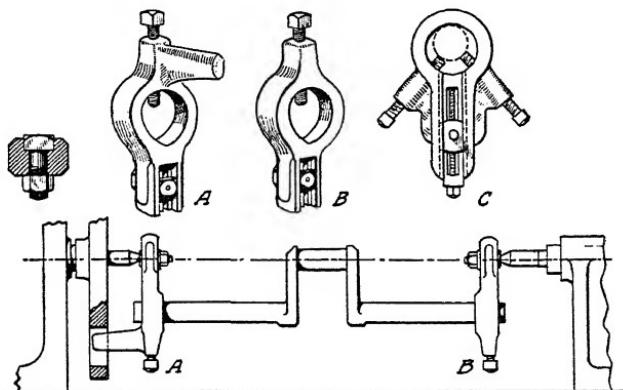

Fig. 33. Dogs with Adjustable Bearings Used for Turning Crank Pins in the Lathe
**Machining Crankshafts in Lathe.** It will be noted that the jig on the end of the crankshaft has centers provided. These centers are in line with the center of the crank pins. When performing the turning operation in the lathe, the shaft is mounted as shown in Fig. 33, which shows a form of jig or lathe dog used for mounting the crank-shaft, with the crank pin centered, for the turning operation.